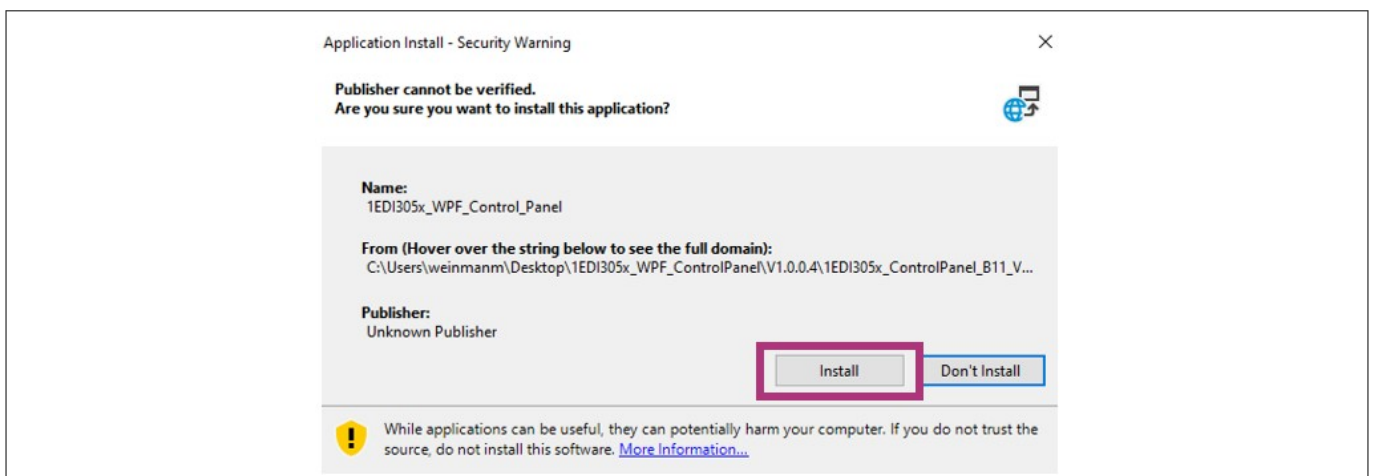

Figure 22 .NET Framework 4.8 download instruction – application installation
4. Click “Install”. See Figure 22